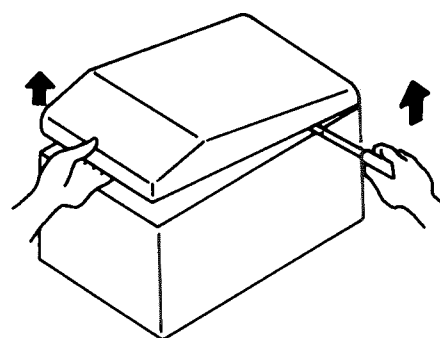

Fig.2
2. Raise the upper side of the Saran Board Assembly with the flat screwdriver, while holding up the under side of the Saran Board Assembly (Fig. 2), the entire Saran Board Assembly can be easily removed.